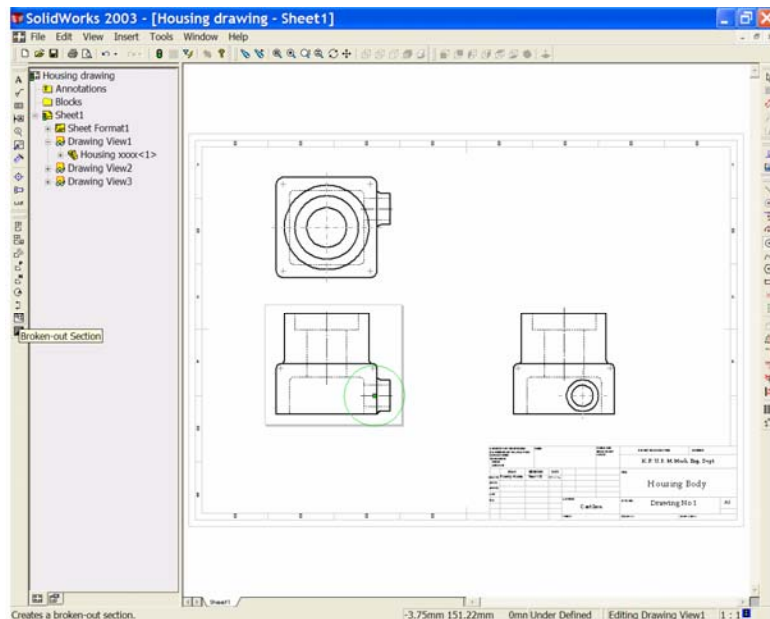

Figure 24
25. From the '**Drawing Toolbar**' select '**Broken-out Section**'. See Figure 24.